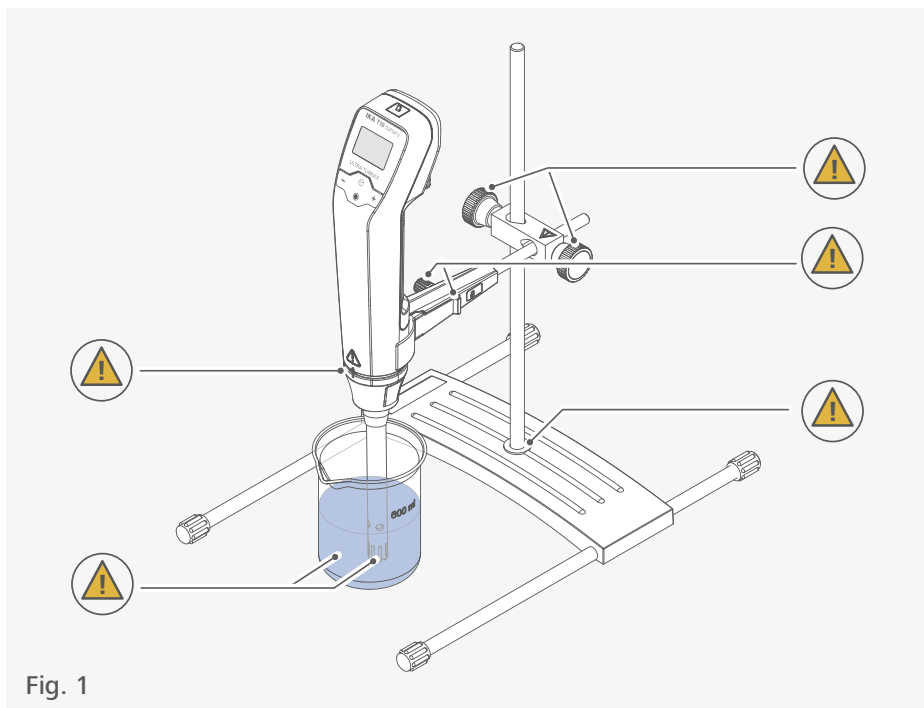

Fig. 1
- › Pay attention to the marked sites in Fig. 1.